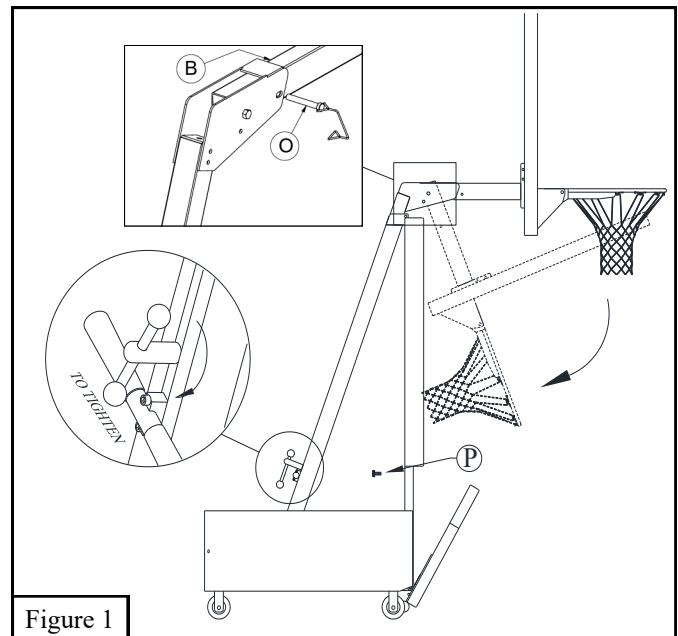

Figure 1
1. This basketball system is shipped partially preassembled. After removing the system from its shipping skid open the lower padded front of the unit by removing the *Lock Knob* (P) and pulling forward on the top of the lower pad. Remove the unassembled parts and hardware. See Figure 1.
- Rotate the *Extension Arm Assembly* (B) to the playing position. See Figure 1
14. To roll the system, unscrew the *Lock Knob (P)* to release the lower front padding. This will lower the unit to the portable position. To lock in place push padding to the original position and tighten the *Lock Knob (P)* . See Figure 1
15. For storage or transport through a normal 78" tall double doorway: remove the *Locking Pin (O)* then pivot the extension arm, backboard and goal downwards. Store the *Locking Pin (O)* in the extension arm. See Figure 1.
16. To roll the system, unscrew the *Lock Knob (P)* to release the lower front padding. This will lower the unit to the portable position. To lock in place push padding to the original position and tighten the *Lock Knob (P)* . See Figure 1.
17. For storage or transport through a normal 78" tall double doorway: remove the *Locking Pin (O)* then pivot the extension arm, backboard and goal downwards. Store the *Locking Pin (O)* in the extension arm. See Figure 1.